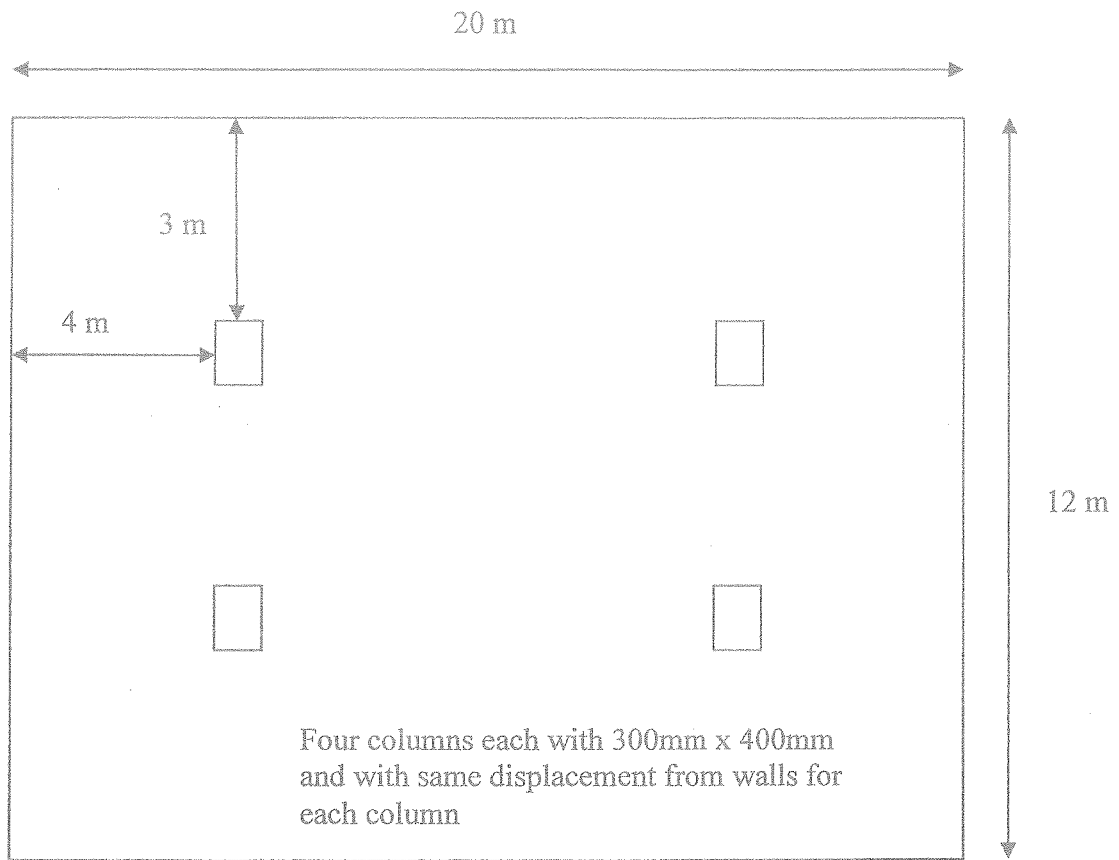

Figure Q3: Ground Floor Plan of the Proposed Educational Building
- Q3. Assume that you are engaged as a service engineer for a design of two-storey Educational building with each floor area of 20m x 12m. The ground floor will be used as a lecture theater and the upper floor is used for staff. Plan view of proposed building is shown in Figure Q3. An automatic sprinkler system is selected to install as a fire protection method in both floors. Your design should incorporate relevant travel distances according to the fire regulations. Use Data Sheet 1, 2 and 3 when answering.